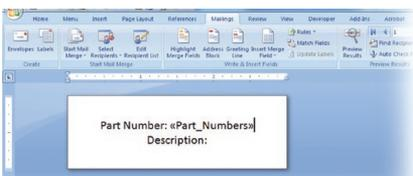

FIGURE 12 Word document ready to receive data from Excel Column A.
J. Select **Column A** header. A **Column A space-holder** (<<Part\_Numbers>>) appears next to the Column A header (Fig. 12).